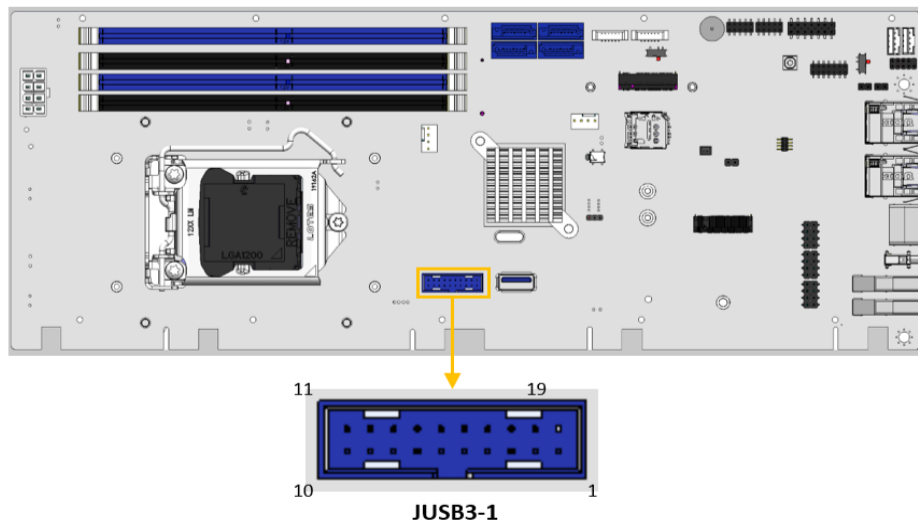

Figure 3-27: Internal USB 3.2 Gen 1 Connector Location
- CN Location:** See Figure 3-27